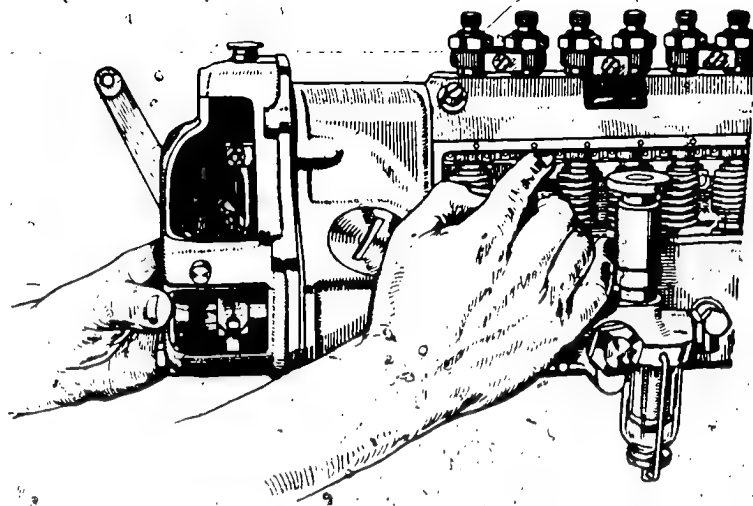

Fig. 10 Mounting the cover of the governor
10. Push the control rod to "stop" position and hold it there. Set control lever (17) obliquely upwards. Mount governor cover (18) from above (see Fig. 10), so that the sliding block (12) is easily introduced into its guide formed by the floating lever (22).